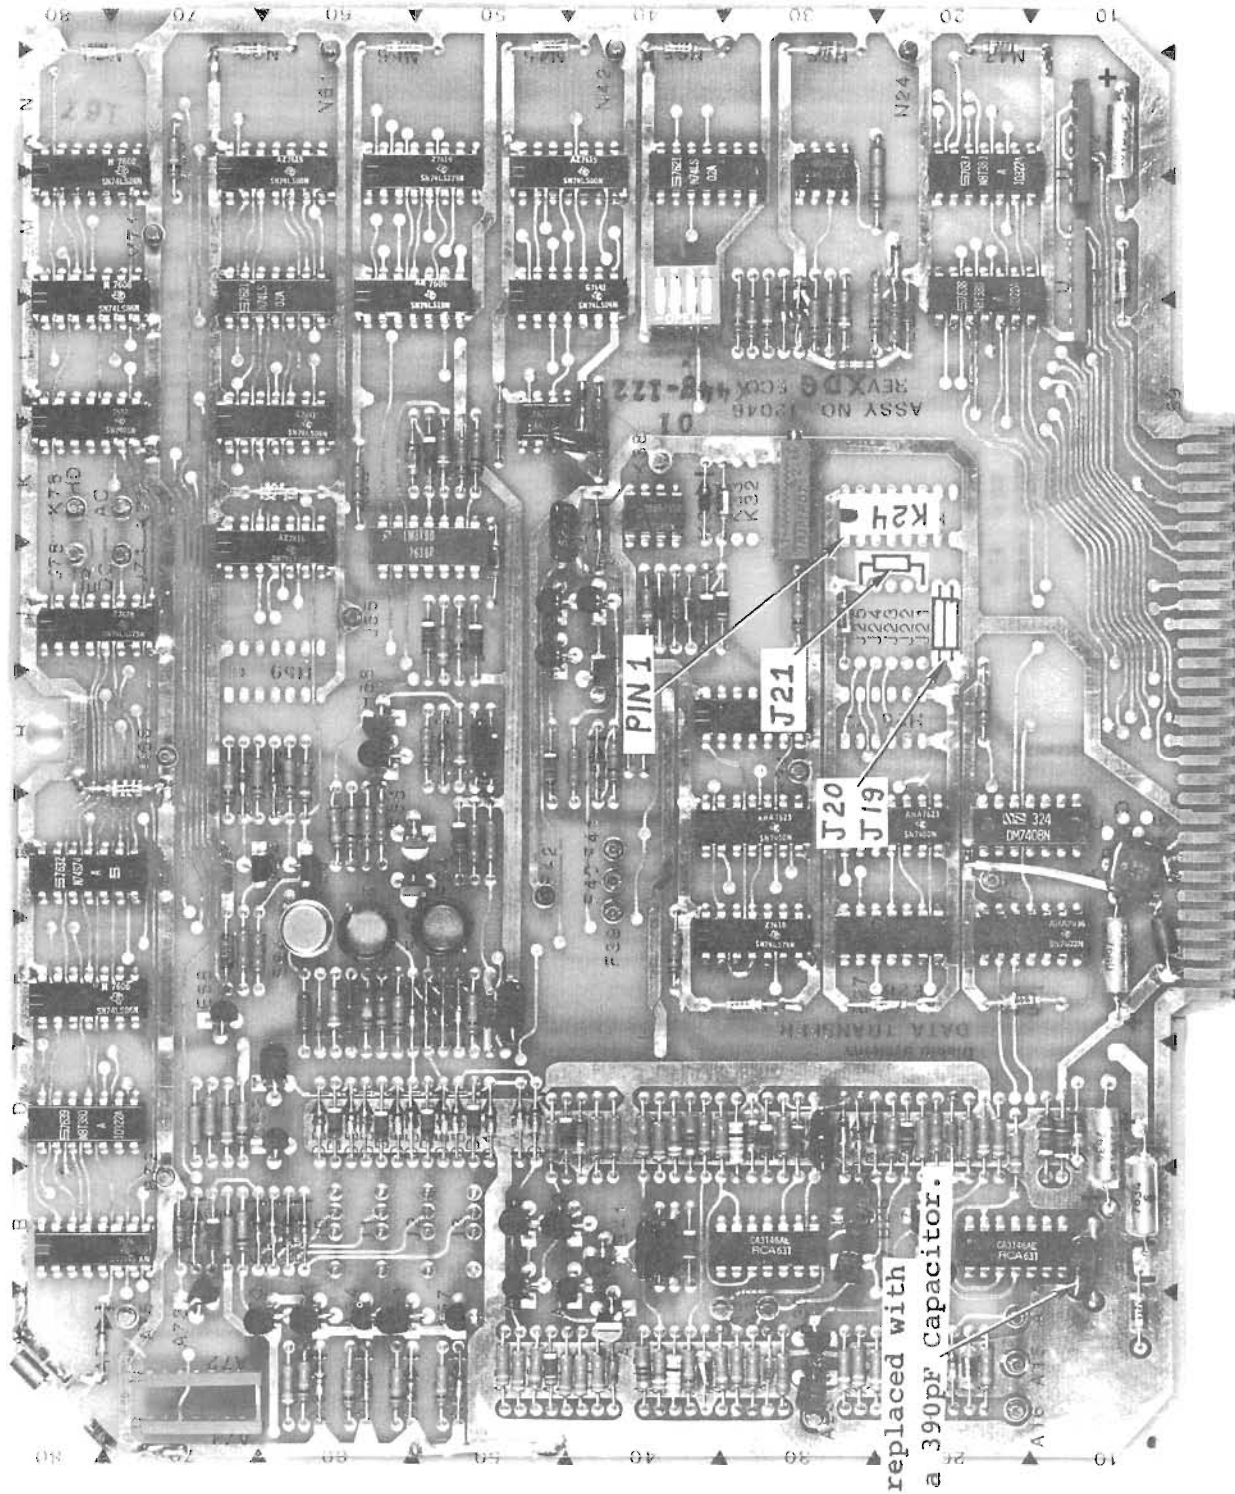
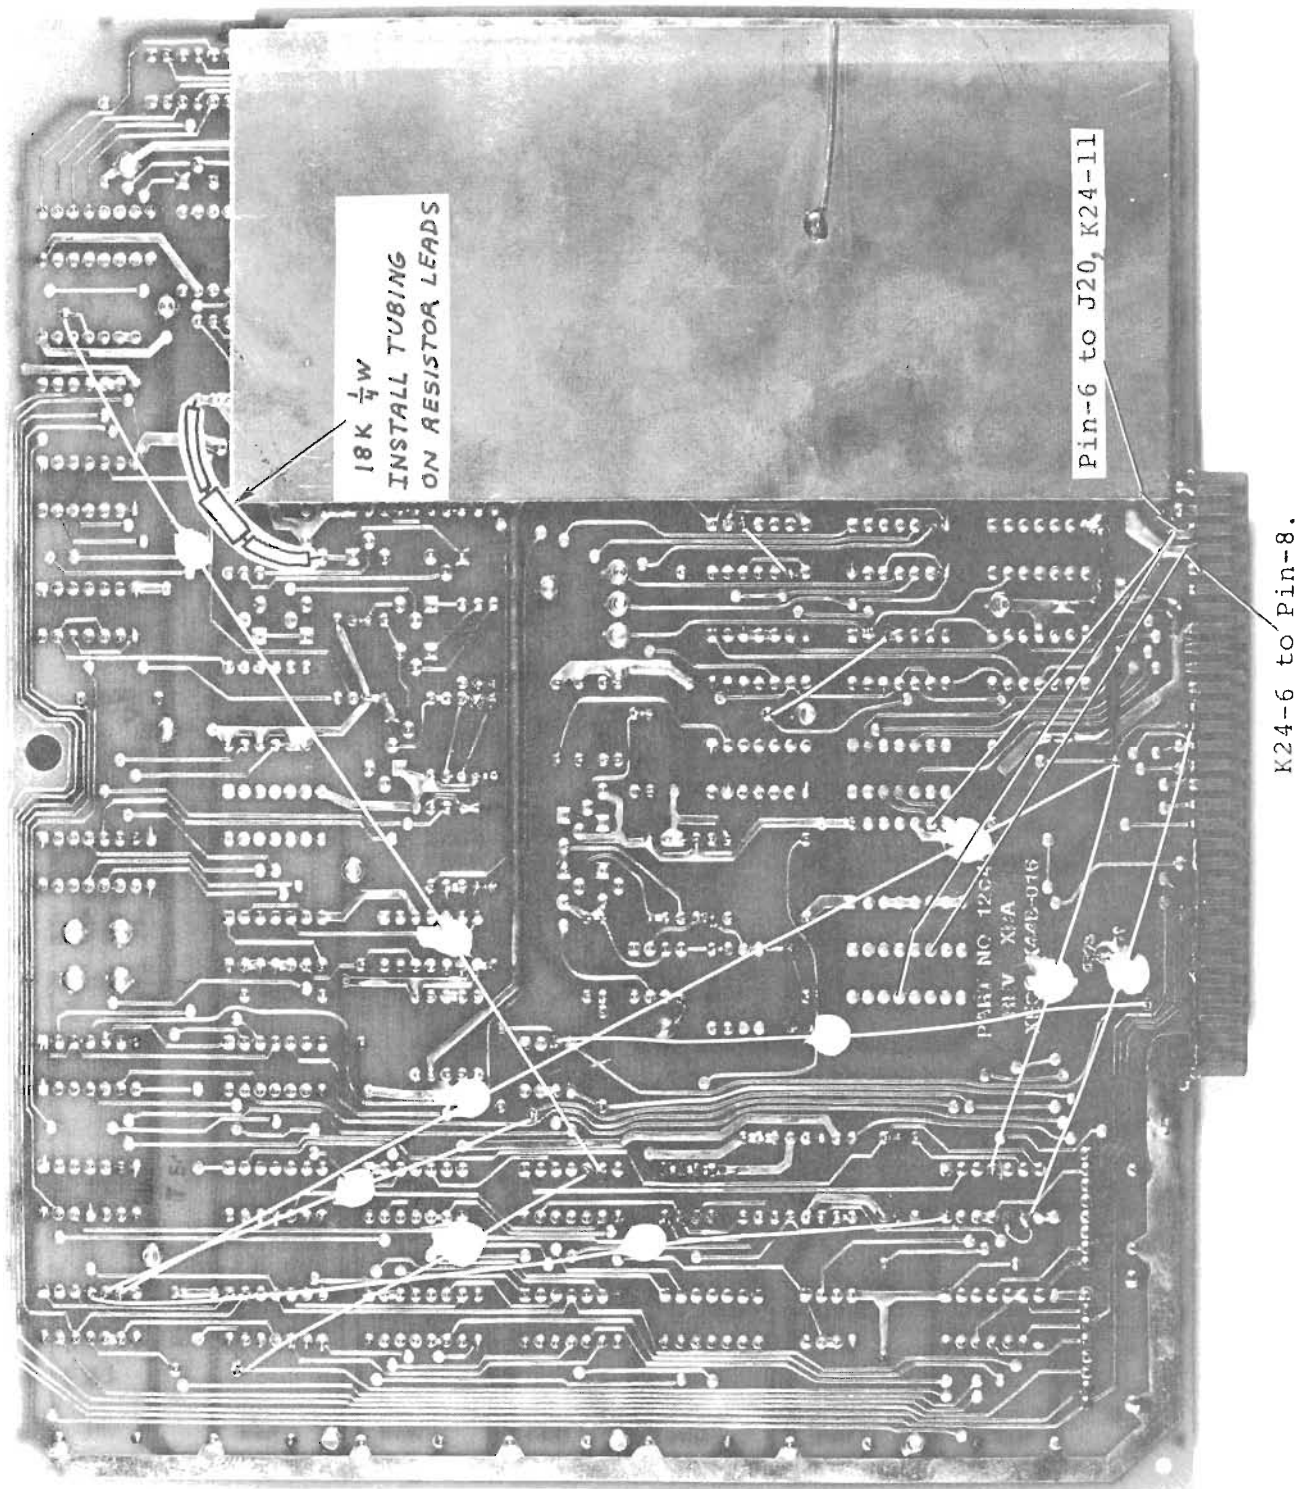

FIGURE 1
FIGURE 2
2. See Figure 1. Remove solder from K24, dip position holes.
7. Solder J19, J20, and J21 together on the side closest to K24. (On some PC Boards the three (3) points of J19, J20, and J21 may be already joined by runs.)
12. Install wire from K24-6 to I/O pin 8. (see Figure 2)
To increase the reliability of the 2N3725 write drivers, an 18K 1/4 watt resistor should be installed from the collector of E64 to -15V (see Figure 2).
To improve Read Amplifier performance, the 470pF capacitor at location B11 should be replaced with a 390pF capacitor (see Figure 1).
1. Adjust the upper disk R/W heads for .050" gap (see Figure 1 for metric equivalent).